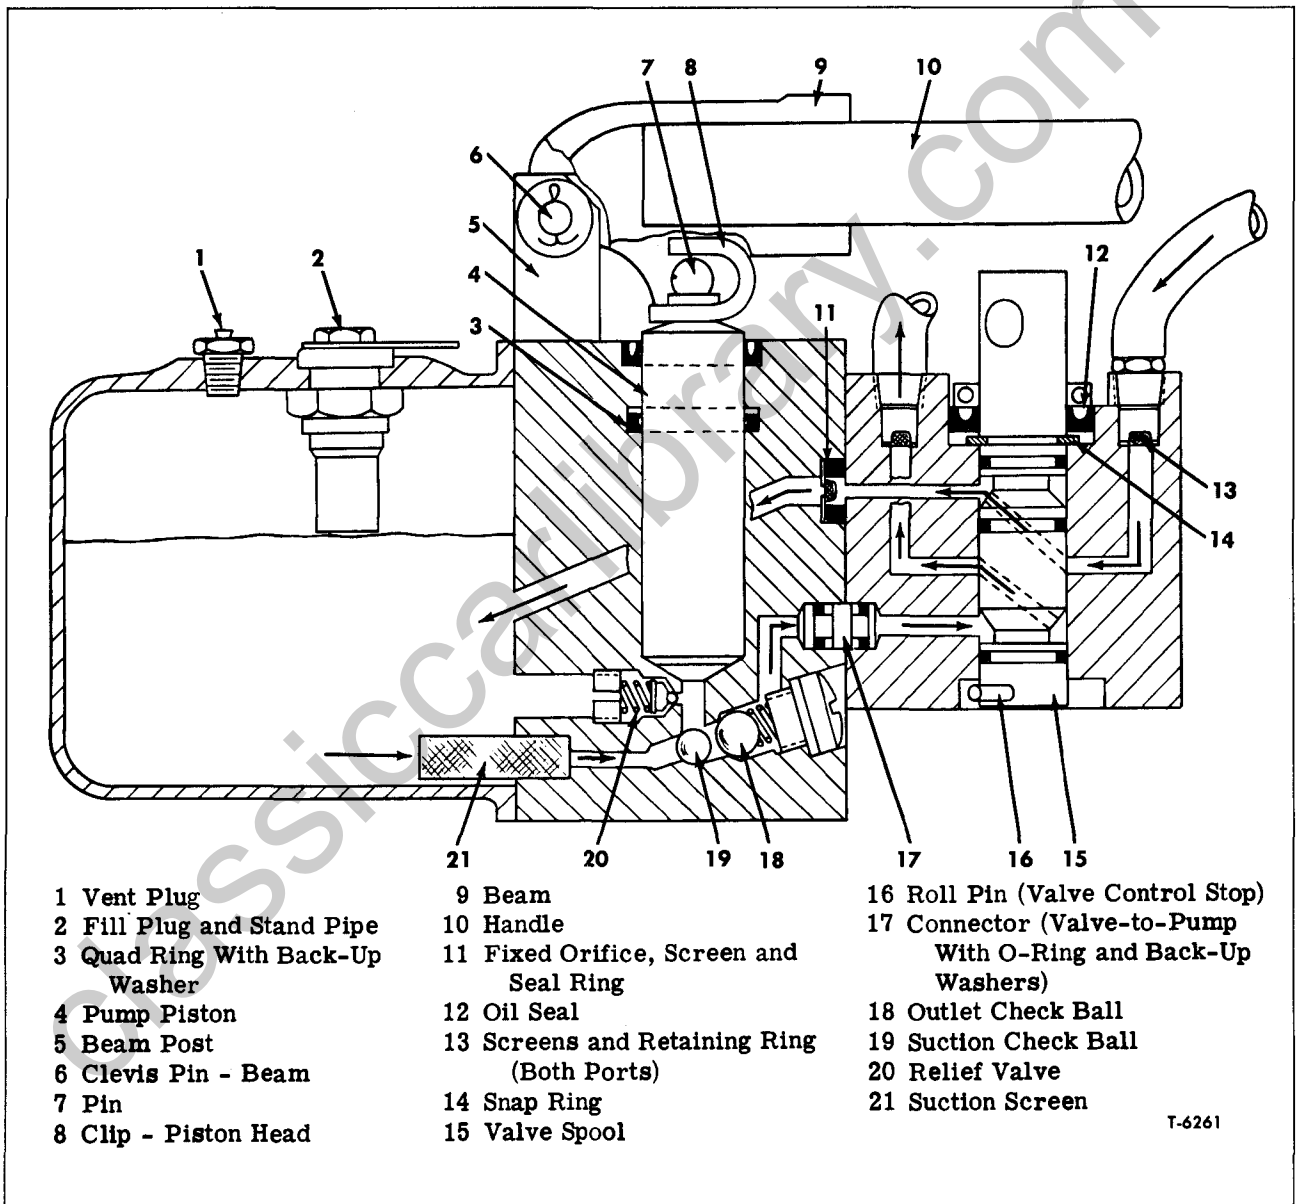

Figure 5—Schematic of Hydraulic Pump Assembly (Typical)
NOTE: Key numbers refer to figure 5.
When the handle is lowered, oil pressure closes suction check ball (19) and opens outlet check ball (18). Due to downward movement of piston, oil enters passage above outlet ball and is directed into valve spool cavity. The valve spool (15), shown in position for raising cab, diverts high pressure oil through passages and port screen leading to left hydraulic line as illustrated on figure 5. Hydraulic oil returning from tilt cylinder enters pump through right hand hose, passes through the upper portion of valve spool (15), into a fixed restriction orifice (11), and is returned to the reservoir.